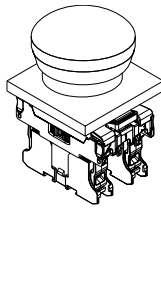

Fig. 7
6. After the contact carrier is snapped onto the mounting flange, the contact lugs are automatically additionally fixed (Fig. 7). This precludes incorrect assembly. The correct assembly should be checked once more.